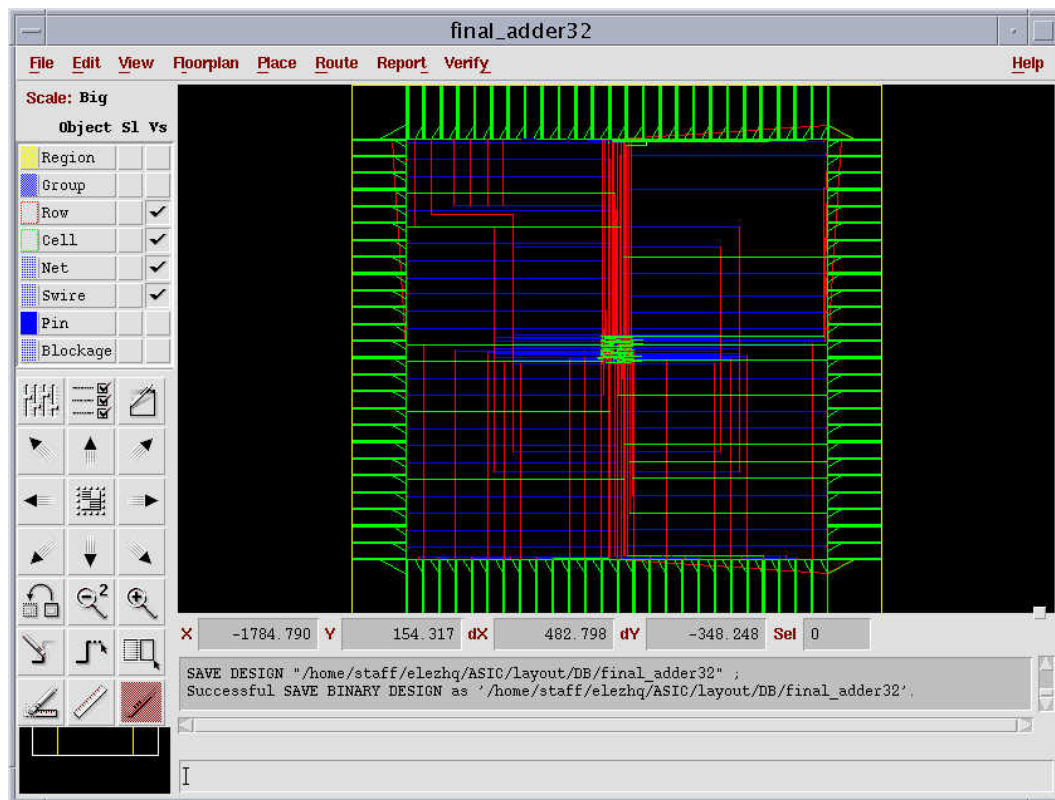

Figure 7-40 Design after WRoute.
3. After a few mins, the artwork window looks as figure 7-40.